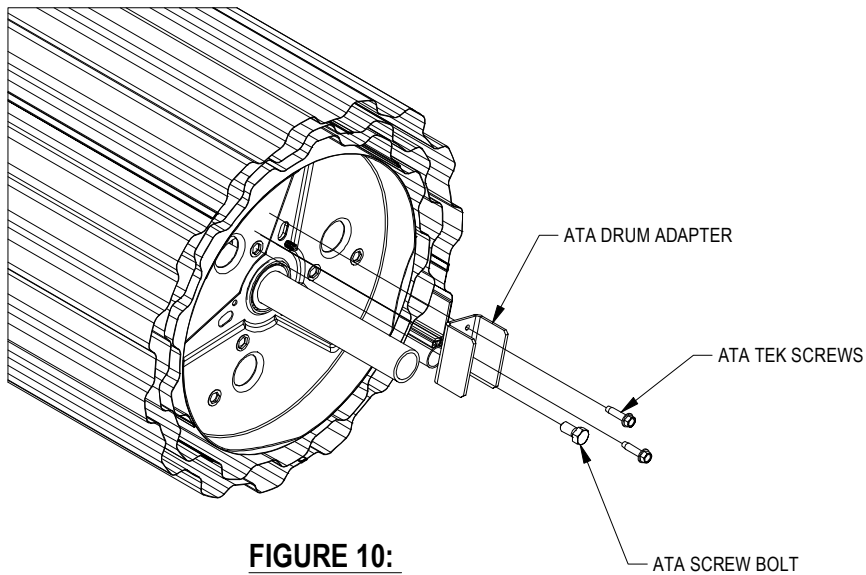

FIGURE 10:
- ▶ Attach drum adapter using the ATA Tek screws and ATA hex bolt. See Figure 10.